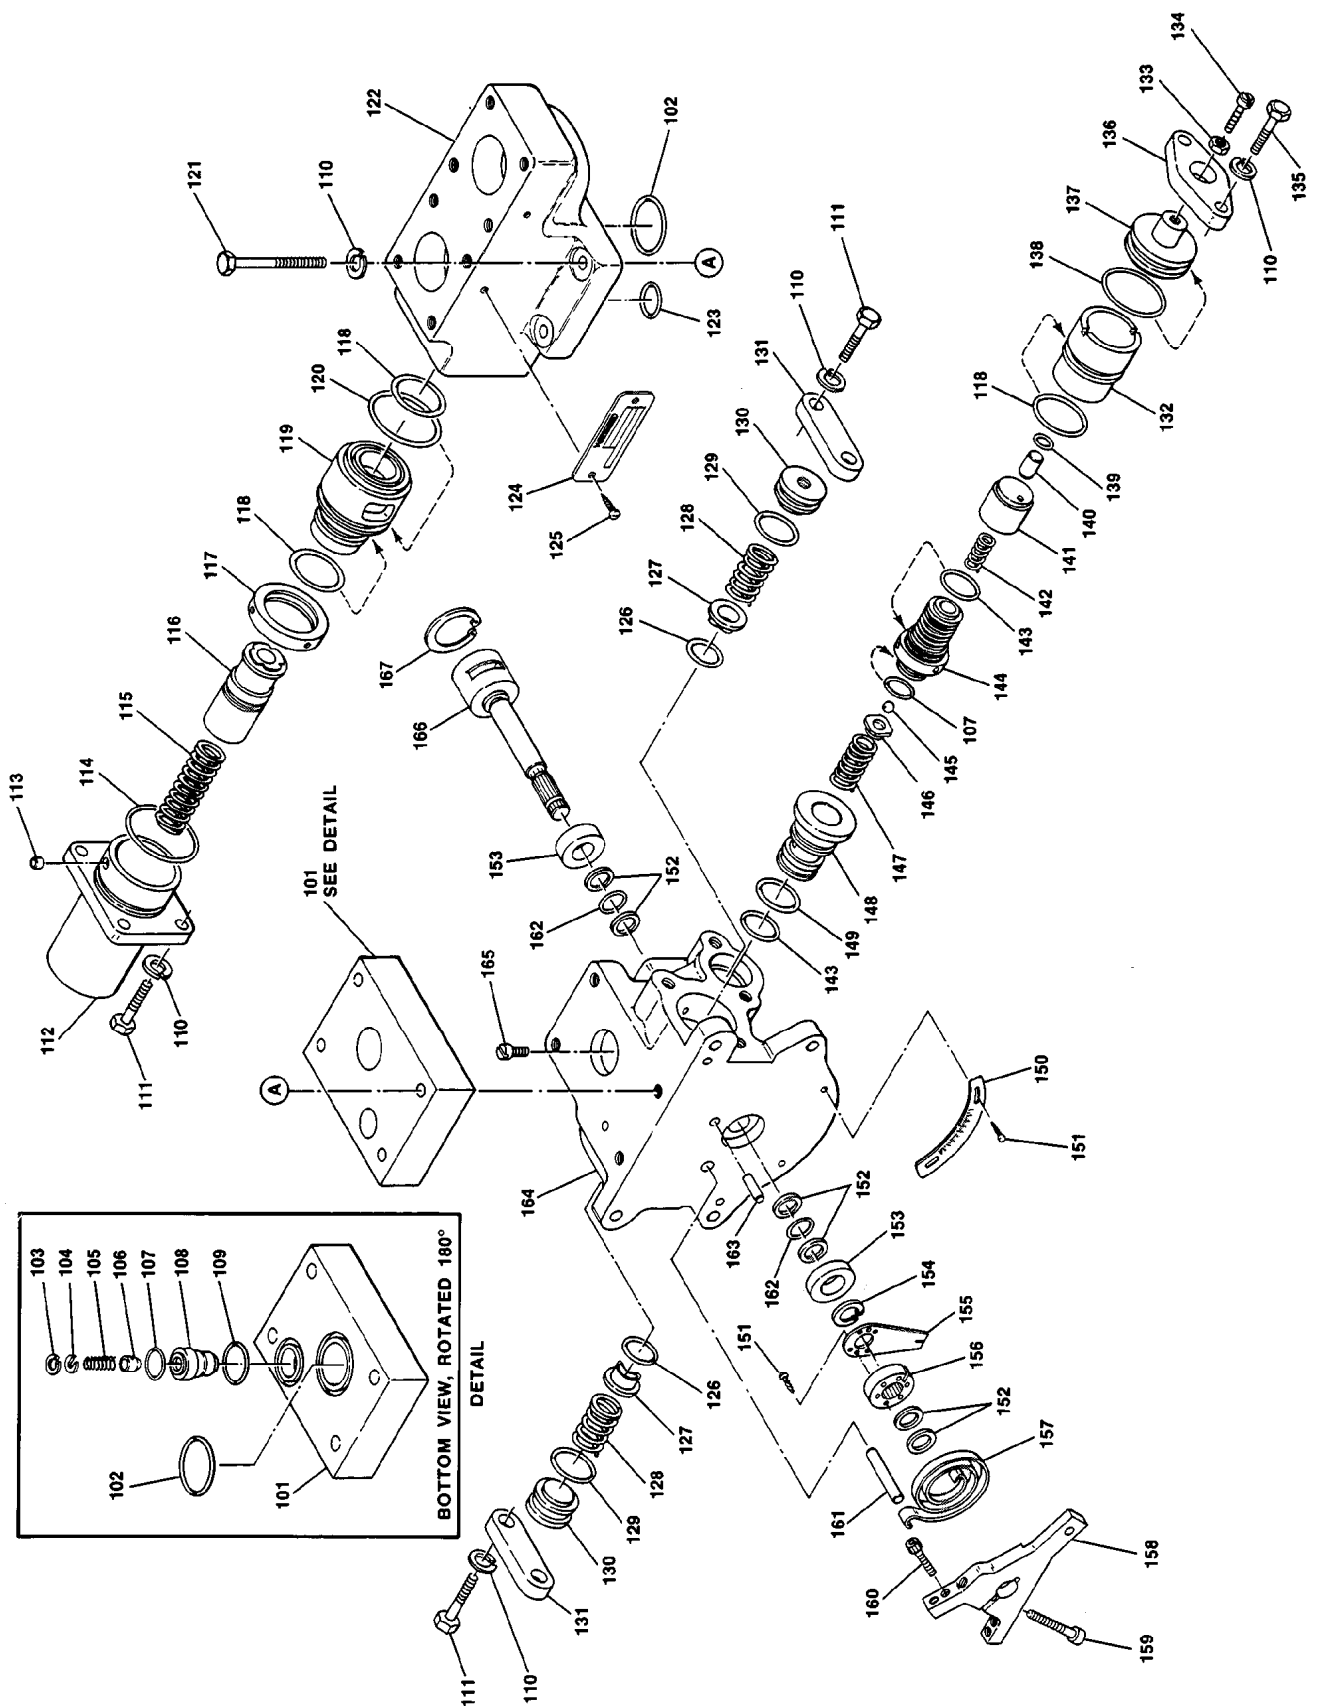

Figure 4-2. Fuel Valve Assembly with Orifice and Relief Valve
6. The orifice and relief valve assembly (101 through 109) can be used on either valve shown (Figure 4-1 or 4-2). If it is used on the valve in Figure 4-1, screws (1) must be replaced with screws (121). Assemble the orifice and relief valve assembly as shown in the detail in Figure 4-2. Place the orifice plate on valve housing (164) as shown. Install O-rings (102-123) on bypass valve housing (122) and place the housing in position on the plate assembly. Secure the assembly with four screws (121).
Parts List for Figure 4-2